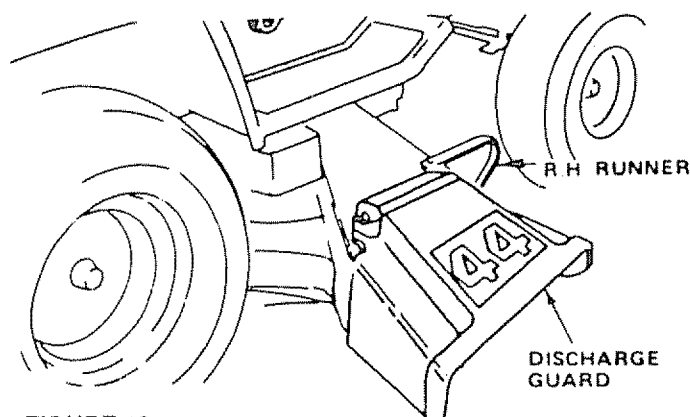

FIGURE 16
- a Use the runner on the R.H. side as a guide; the blade cuts approximately 2.54 cm (1 inch) outside the runner (Fig. 16).
Your mower has a flip-up discharge guard (Fig. 16) for door or gate clearance when held in raised position